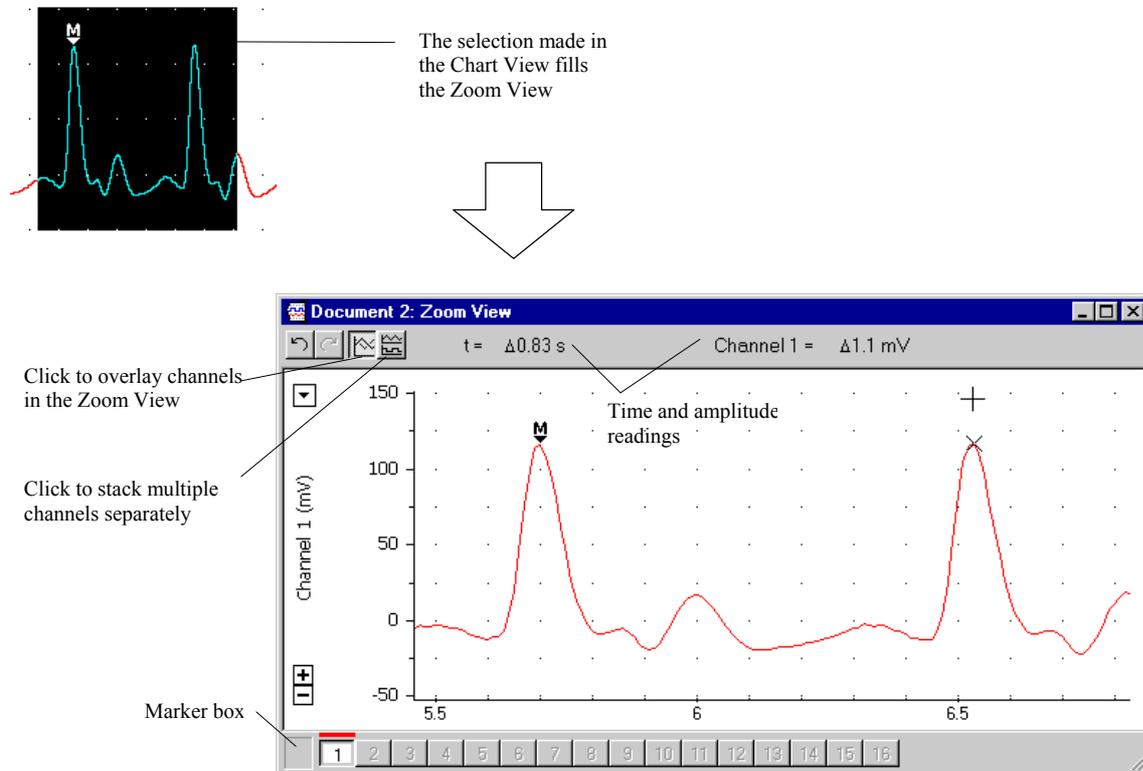

Figure 12. The Zoom View.
- Use the Marker and Waveform Cursor to measure pulse amplitude and time interval — these values appear under the title bar in the Zoom View, as shown in Figure 12. (If the Marker was not included in your selection, note that it is duplicated at the bottom left of the Zoom View — drag it from there.)
The traces can be overlaid or viewed separately by clicking on the appropriate button at the upper left of the window (Figure 12).